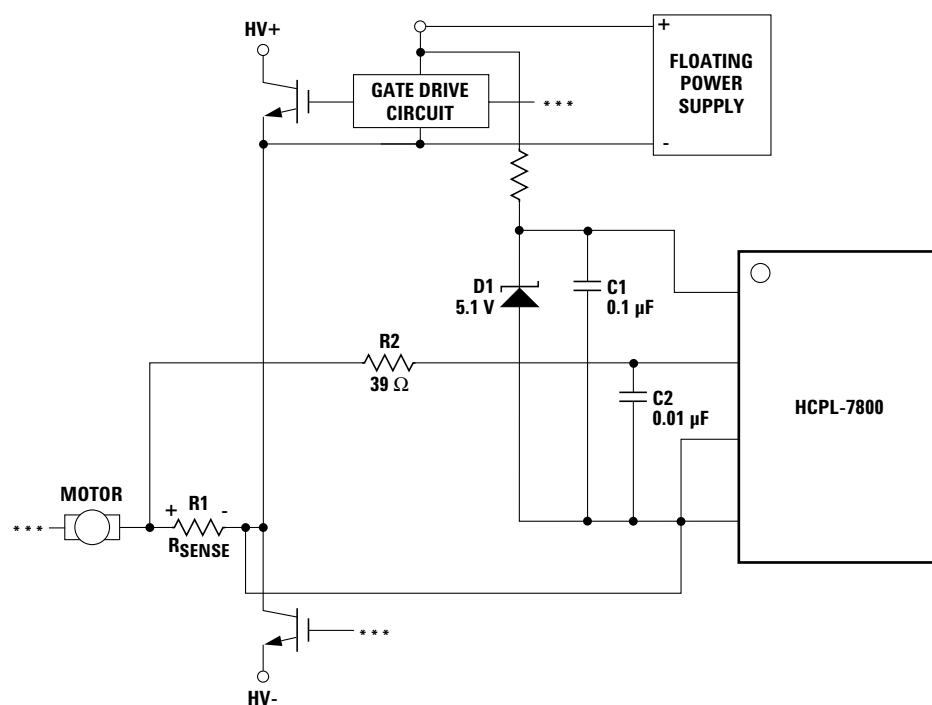

Figure 17. Recommended Supply and Sense Resistor Connections.
The recommended supply connections are shown in Figure 17. A floating power supply (which in many applications could be the same supply that is used to drive the high-side power transistor) is regulated to 5 V using a simple zener diode (D1); the value of resistor R4 should be chosen to supply sufficient current from the existing floating supply. The voltage from the current sensing resistor (R_{sense}) is applied to the input of the HCPL-7800(A) through an RC anti-aliasing filter (R2 and C2). Although the application circuit is relatively simple, a few recommendations should be followed to ensure optimal performance.